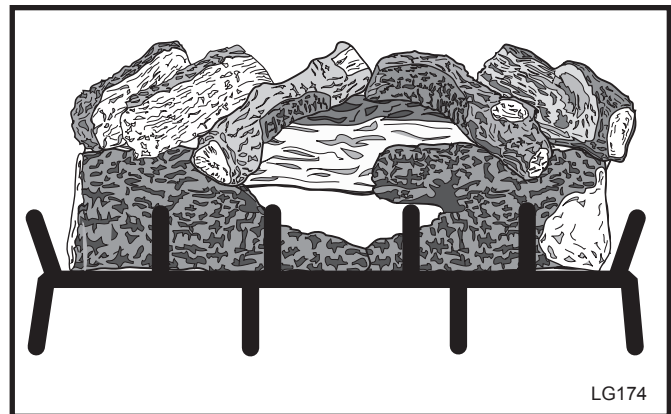

Fig. 13 OD30CFL log set.
2. Next, place the smaller top logs diagonally onto the bottom logs, so that the logs are in notches provided. (Fig. 13)